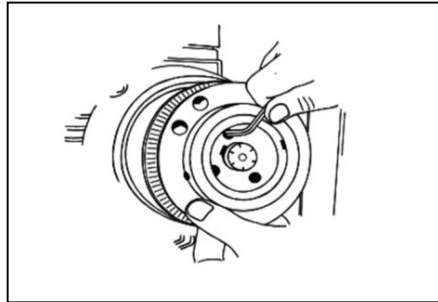

fig. 1
- Turn out the inner-hexagon cap screw (watch figure 1)